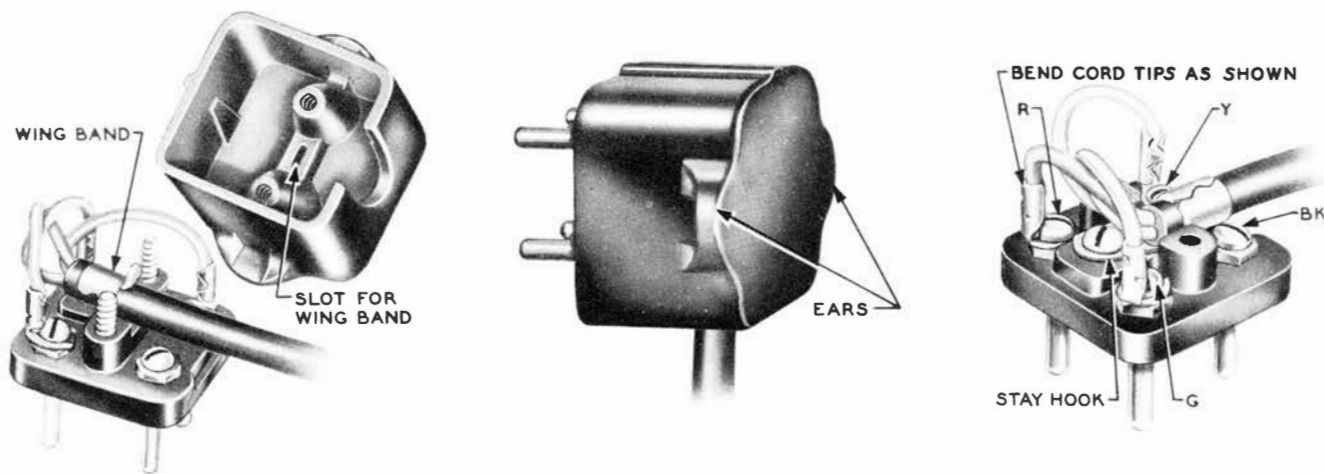

Fig. 26 — Terminating Cords on 283B Plug
9.02 For portable telephone sets requiring two or four conductors, use the 283B plug. This plug will accommodate cords equipped with wing-type stay bands as well as stay hooks. The cover has two projecting ears that provide a more positive grip when removing plug from associated jack (see Fig. 26).
9.04 Where more than one jack is installed, they must be mounted in the same relative position. The cord should always enter the plug as shown in Fig. 26.
1. Mounting cord must be placed on the connection side of the plug between the green-black and red-yellow terminating points. See Fig. 26.
3. Spade tipped conductors should be bent up toward the cover as shown in Fig. 26.